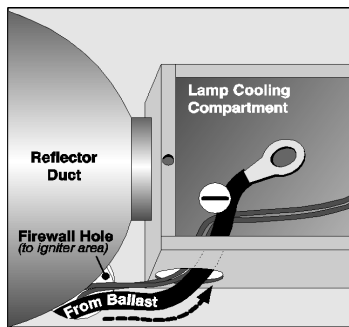

Figure 2-11 Feed Black Lead into Compartment
6. Route the **NEGATIVE (–) BLACK** lamp lead through the hole in the cooling compartment floor (**Figure 2-11**). The igniter wires from terminal **5** and the PCB are also routed here.